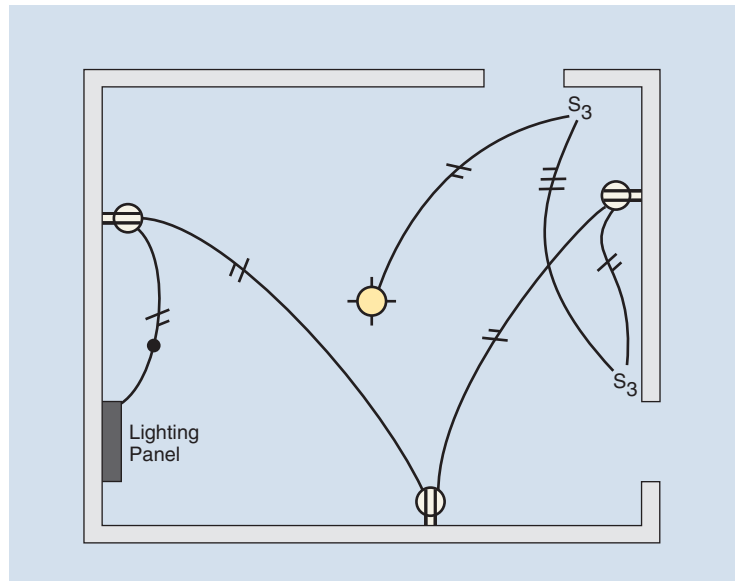

FIGURE 8-5 Typical cable layout. (Delmar/Cengage Learning)
1. Refer to plans and make a cable layout of all lighting and receptacle outlets, as in Figure 8-5.